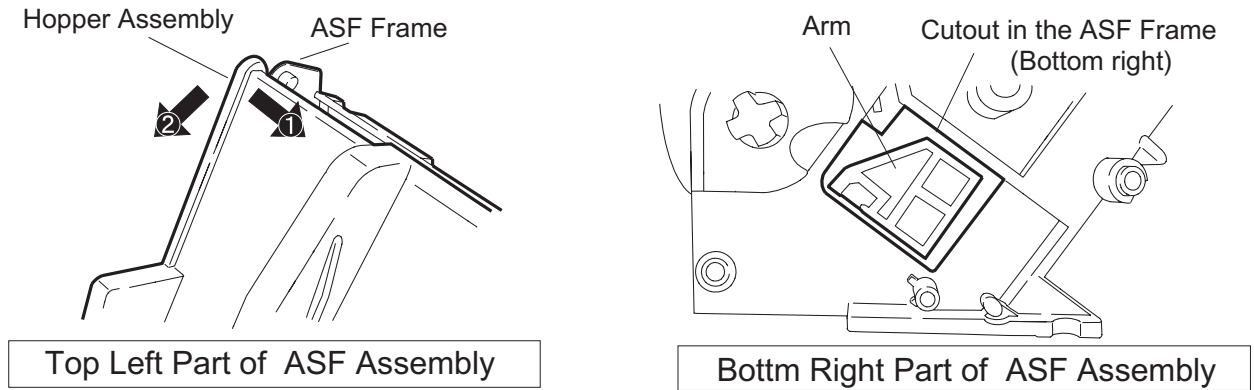

Figure 3-25. ASF Hopper Assembly Removal
4. Release the pin at the top left edge of the hopper assembly from the ASF frame. Then align the right arm of the hopper assembly with the cutout in the ASF right frame, and remove the hopper assembly carefully by lifting up the left edge. Be careful not to bend the compression springs in the paper loading assemblies. (See Figure 3-25.)